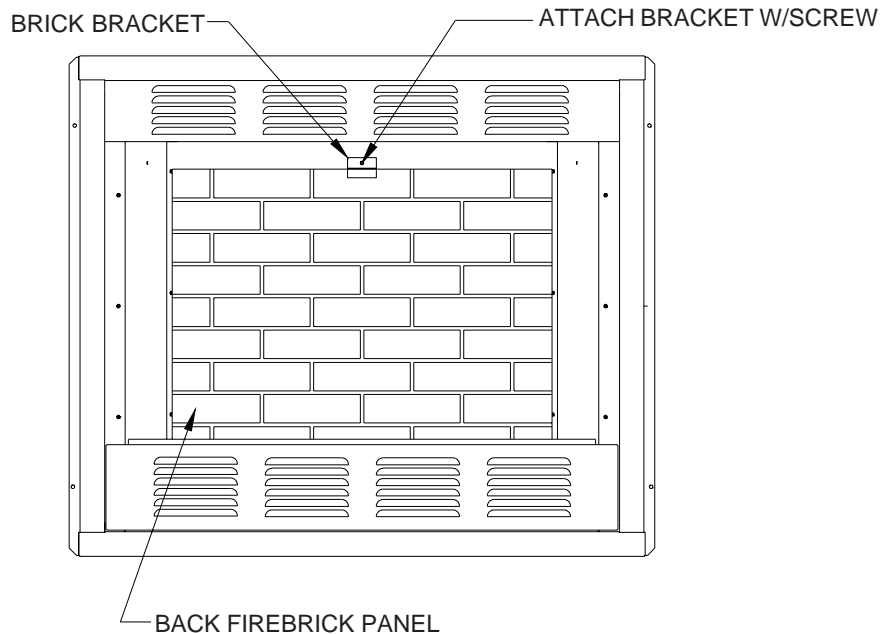

Figure 7a
1. Before installing the firebrick panels you must first remove the brick brackets. A 5/16" nut driver will be required. (See *Figure 7a & b, below for location*)
4. Place the back firebrick panel in the firebox, as shown in *Figure 7a*.